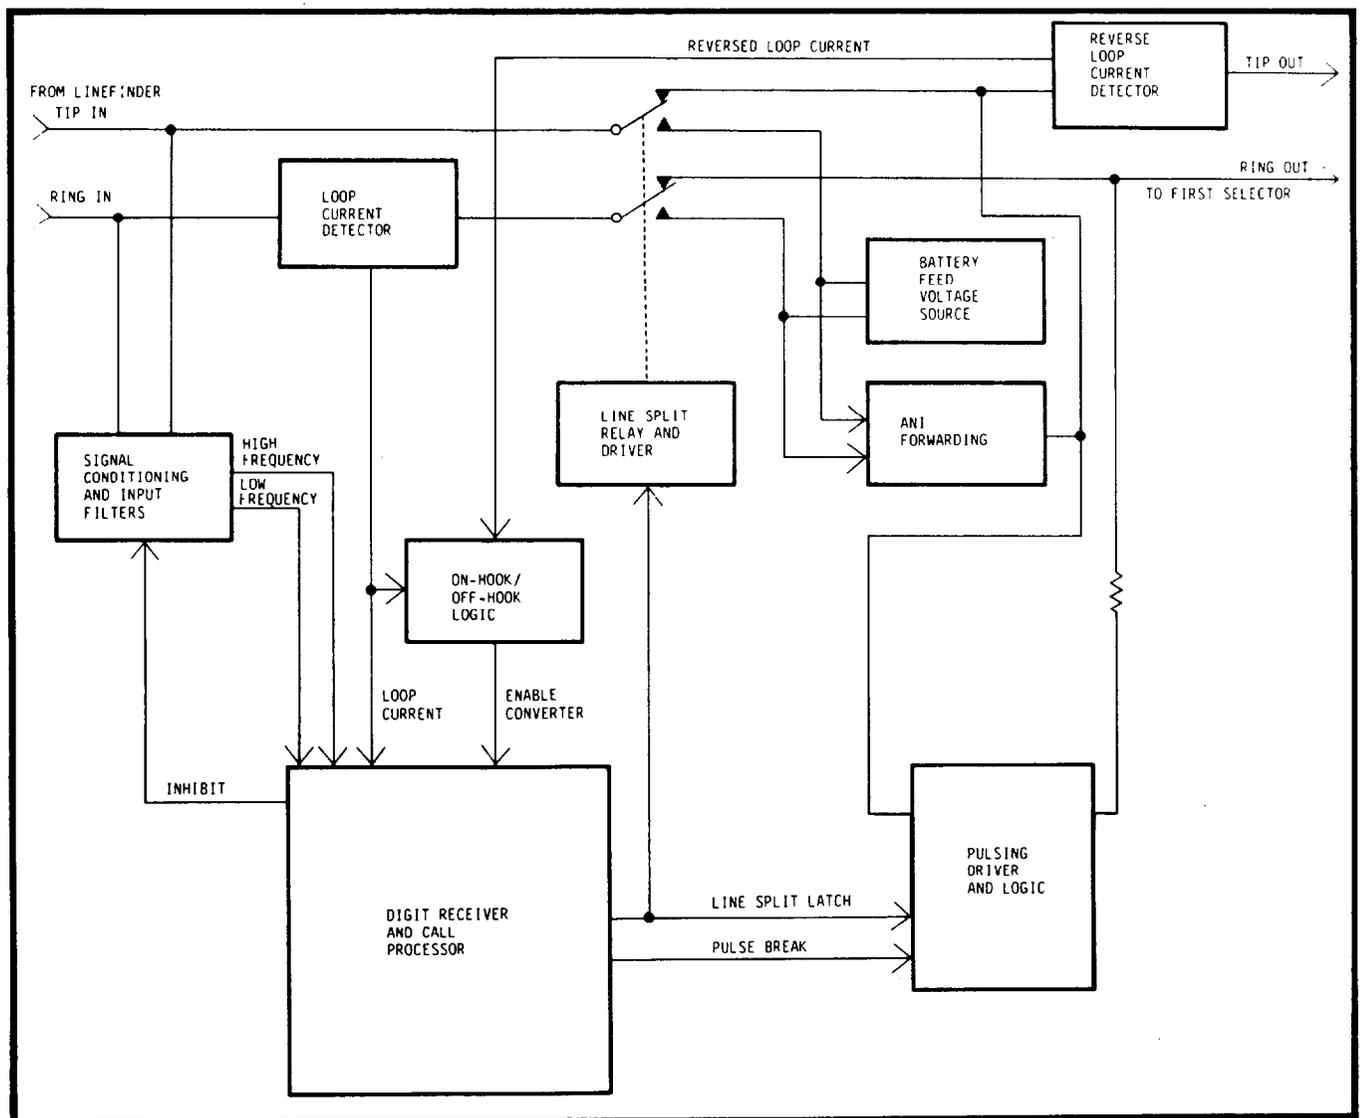

Figure 4 Simplified Block Diagram
3.05 The tone receiver section of the 164-71 is bridged across the Tip and Ring IN pair at all times as shown in Figure 4. The input impedance of the tone receiver is above 75K ohms at all the frequencies of interest and causes no more than 0.052 dB of loss from the line. This input is filtered to separate the high group and low group DTMF frequencies which are then analyzed for possible detection as a DTMF digit.
5.01 To assist maintenance and troubleshooting this description follows a call as it is handled by the M-164-71 (see Figures 4 and 5).
5.08 When the tones have persisted for 40 ms the value of the digit is latched. When the incoming tones end, the line is split in preparation for outpulsing by the operation of the relays shown in Figure 4. This cuts off dial tone to the calling station, connects the internal battery feed supply to the calling station, and connects the ANI forwarding feature to the line. Pulses generated by the converter will pulse the selector.
5.13 Converted DTMF digits appear on Tip and Ring OUT as rotary-type dial pulses generated by the transistorized pulsing circuit under the control and timing of the Digit Receiver and Call Processor (see Figure 4). The line is held split during the interdigital times and is restored 670-760 ms after the last pulse of the most recently received digit. If another digit is then received, its outpulsing will not start until one make period after the interdigital time of the previous digit is completed.